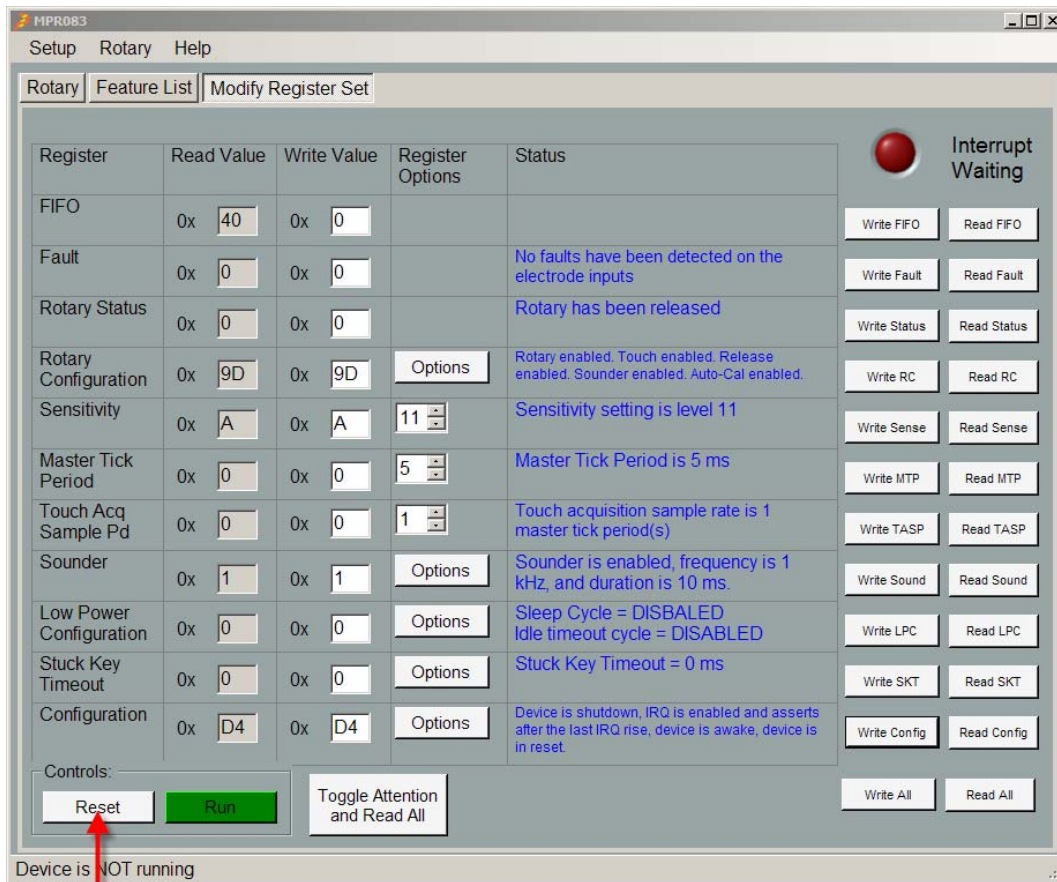

Figure 28. Reset Button
- A. To reset the part to its initial settings, select the “Reset” button. When the “Reset” button is selected, the initial start up values will be written and read from the register, so all values will be updated (Figure 28).